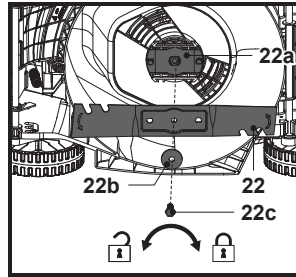

Fig. 22
- Replace the cutting blade (22) with a new one of the same type. Check the status of blade holder (22a) onto the spindle firstly, then attach the cutting blade (22) to the blade holder (22a) by aligning it with the patterns on the blade holder (22a), fix the assembly with the flat washer (22b) and mounting bolt (22c), and tighten by hand.
- Hold the cutting blade (22) firmly with a heavy-duty gloved hand and/or a wood stick, tighten the mounting bolt (22c) clockwise with 25 Nm min, 30 Nm max to ensure safe operation of your machine (Fig. 22).